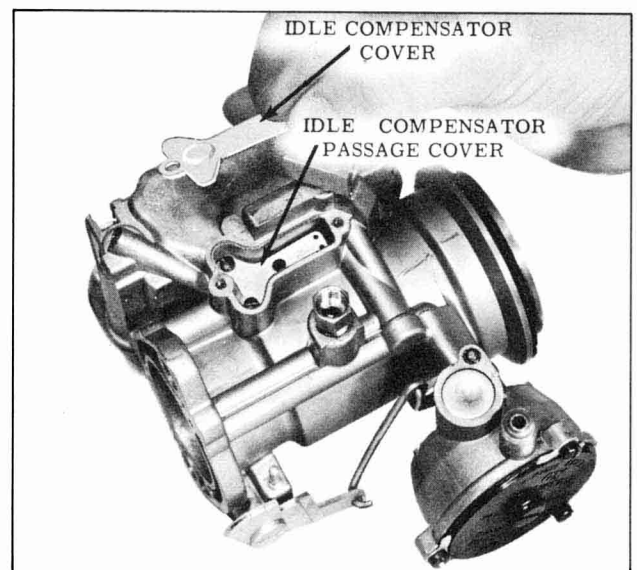

Fig. 9-122 Passage Covers
8. Remove idle compensator cover and passage cover by removing two attaching screws. (Fig. 9-122)
9. Install new idle compensator passage gasket and cover, retaining with two attaching screws. Then install idle compensator cover with the two attaching screws. (Fig. 9-122)